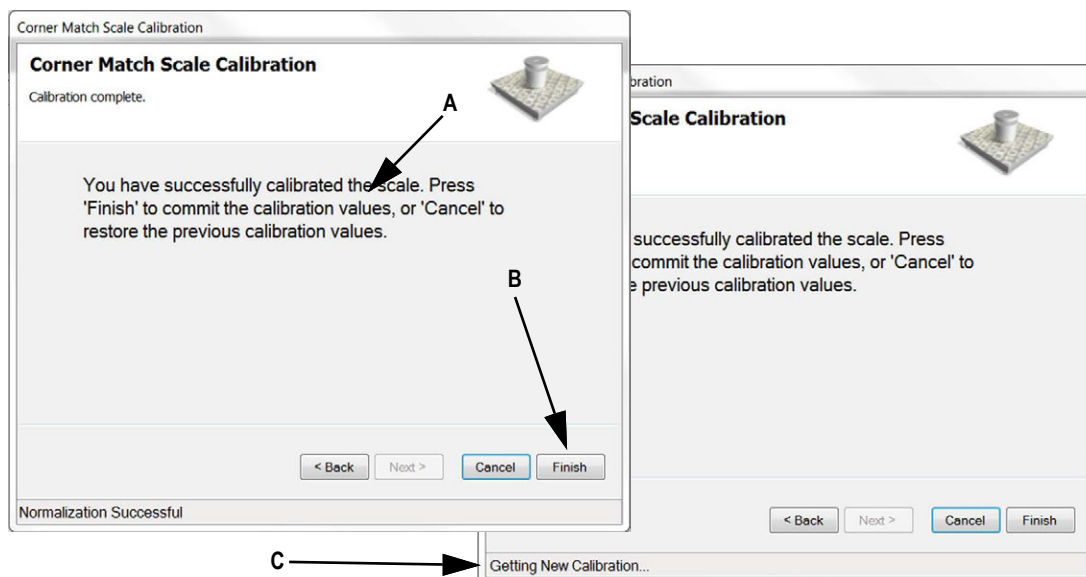

Figure 5-67. Finish Calibration
14. A message that you have successfully calibrated the scale will appear (Figure 5-67 A) then press **Finish** (Figure 5-67 B).
A message appears in the bottom of the frame "Getting New Calibration" (Figure 5-67 C). When done the pop up box will disappear and calibration is complete.